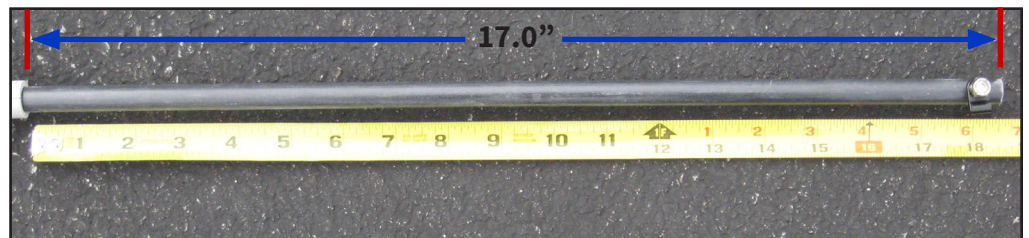

Fig. 65
- ☐ Place the Reflector Element Assembly near the Boom Center Assembly and Driven Element Assembly. Repeat the previous four (4) steps to fasten the Reflector Element Assembly to the Boom.
- ☐ Select one of the elements and extend the end of the 0.5" OD Rod to a length of 17.0" as shown in Fig. 65. Tighten the 3/4" SS Hose Clamp.
- ☐ Repeat the previous step for each one of the remaining three (3) elements.